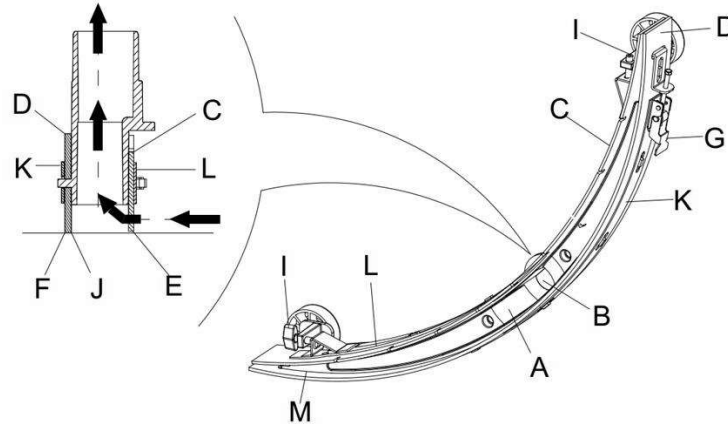

Figure 10
2. Press the power switch (38) to the “O” position to turn off the machine.
3. Unscrew the squeegee knobs (16); remove the vacuum hose from the squeegee assembly & remove squeegee.
4. Use the squeegee lift handle (14) to lift the squeegee mount bracket.
5. Using a damp towel, clean the squeegee (Figure 10). Clean in particular the groove (A, Figure 10) and the dirt and fragments on the vacuum tube. Check if the front squeegee blade (C) and the rear squeegee blade (D) are intact, and if there are broken edges and cracks. Replace them if necessary (refer to the steps in the following section).
1. Following the methods related in the previous section clean the squeegee (Figure 10)
2. Check the edge (E, Figure 10) of the front squeegee blade and the edge (F) of the rear squeegee blade (D). On the whole length, they should be level. Otherwise, adjust their heights through the following procedure.
- Loosen the clip (G) to let the rear squeegee blade (D) separate from the bracket (M) for the adjustment of the position of the squeegee. After the adjustment, lock the clip once again.
- Loosen the screw on the handle (I) to adjust the front squeegee blade (C); tighten the handle screw after adjustment.
3. Check if the front squeegee blade (C) and the rear squeegee blade (D) is intact and if there are broken edges and cracks. If damage is found, change them according in the following way. If the front edge of the rear squeegee blade (J) has worn, it can be flipped upside down and re-installed (the top edge is required to be intact). If the top edge is also worn, change it by following the procedure below:
- Loosen the clip (G) to let the pressure blade separate from the bracket (M), take off the clip bar (K), and then change or turn the rear squeegee blade (D) upside down. Re-install the rear squeegee blade in the reverse order of taking it off.